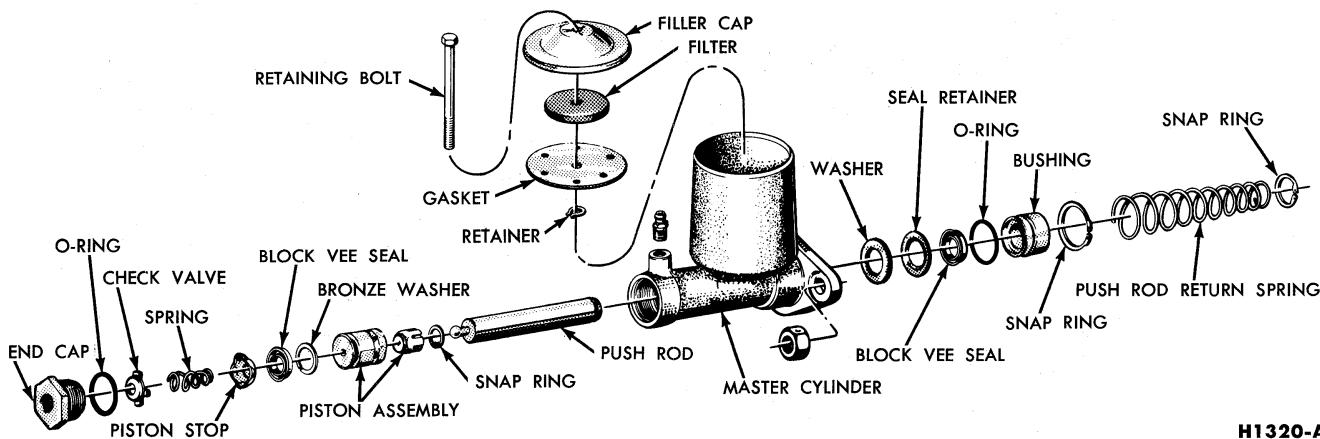

FIG. 27—Dash-Mounted Master Cylinder Disassembled H1320-A
1. Clean the outside of the master cylinder, loosen the retaining bolt, and remove the filler cap, filter and gasket assembly (Fig. 27). Pour out any brake fluid remaining in the
6. Remove the "Block Vee" type seal and bronze washer from the piston (Fig. 27).
1. Install the bronze washer and the "Block Vee" type seal on the piston assembly (Fig. 27).
4. Install the O-ring on the end cap. Install the piston stop, spring, check valve, and the end cap in the front end of the cylinder (Fig. 27).
7. Slide the return spring onto the master cylinder push rod, compress the spring, and install the retaining snap ring (Fig. 27).